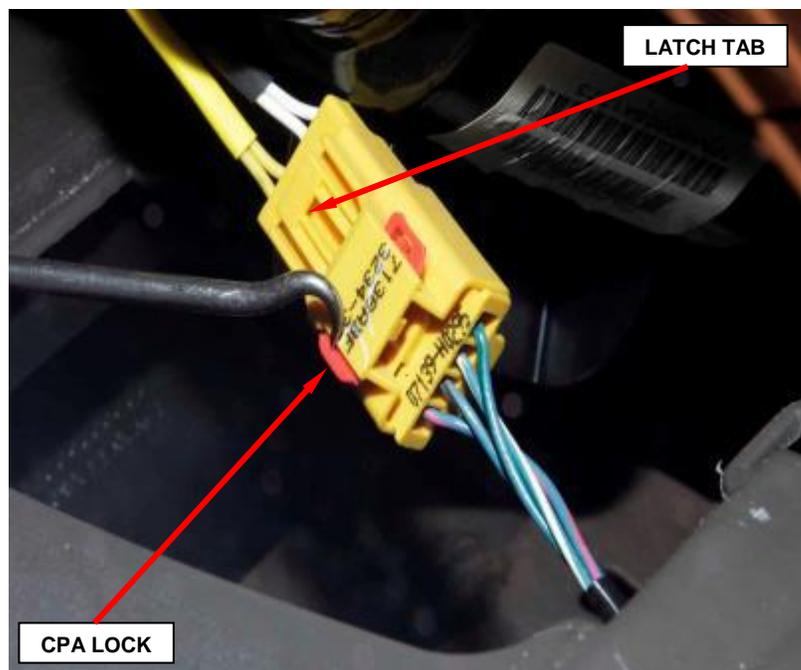

Figure 33 – Airbag Inflator Pigtail Connector
- a. Slide the red Connector Position Assurance (CPA) lock on the connector toward the side of the connector (Figure 33).
9. Connect the instrument panel wire harness connector for the airbag to the passenger airbag inflator pigtail wire connector on the right side of the airbag mounting bracket. Be certain that the latch on the connector and the red Connector Position Assurance (CPA) lock are each fully engaged (Figure 33).